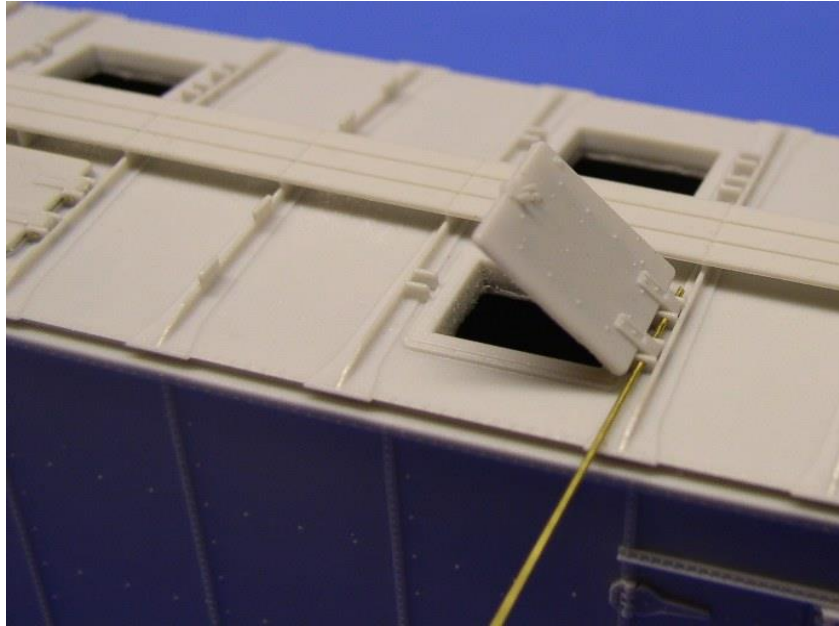

Figure OH7
- Use a piece of 0.014" rod to test how well the hatch opens and closes. You may need to remove a bit of material to get it to open. Caution, only allow it to open about 45°, no more. The hinge will most likely break. See Figure OH7.